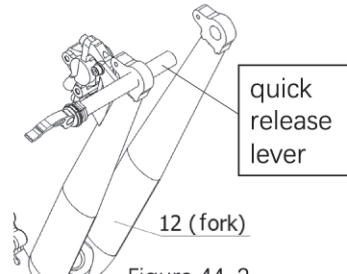

Figure 44-2.
b. Remove the quick release lever from Part 12, as shown in Figure 44-2.